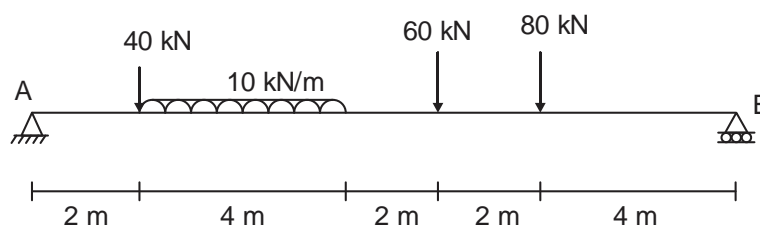

Fig. 10
13. Using influence line diagrams determine the shear force and bending moment at section 4m from A in the simply supported beam shown in fig.10. 10